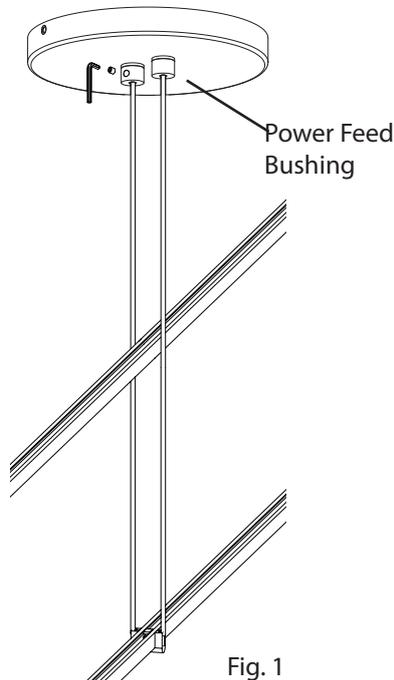

Fig. 1
1. Insert one of the **Arms** onto the **Center Hub**, and secure with the four **Phillips Screws** (Fig. 1).
1. Install the **Single Cord Power Feed Hanger** onto the **Power Bar**: pass the **Cord** through the Power Bar, tip the Hanger 45 degrees and insert the copper springs into the center of the Power Bar, then push the Hanger up while tipping it back up 45 degrees (Fig. 1).
1. Install **Double Cord Power Feed Hanger** to **Lower Power Bar** and connect to the **Power Feed** by inserting the exposed wires into the **Power Feed Bushings**. Secure by tightening the **Set Screws** with the included **Allen Key** (Fig. 1).
1. Install the **Mounting Bracket** to the ceiling with **Anchor** (if appropriate) and **Screw**, then screw the **Post** onto the Mounting Bracket (Fig. 1).